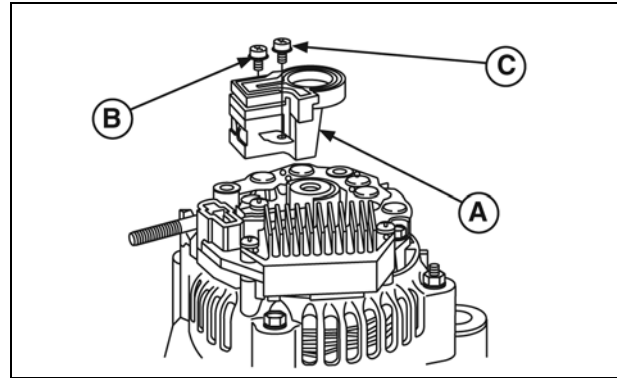

Figure 22
5. Remove three screws and regulator (A, Figure 22).